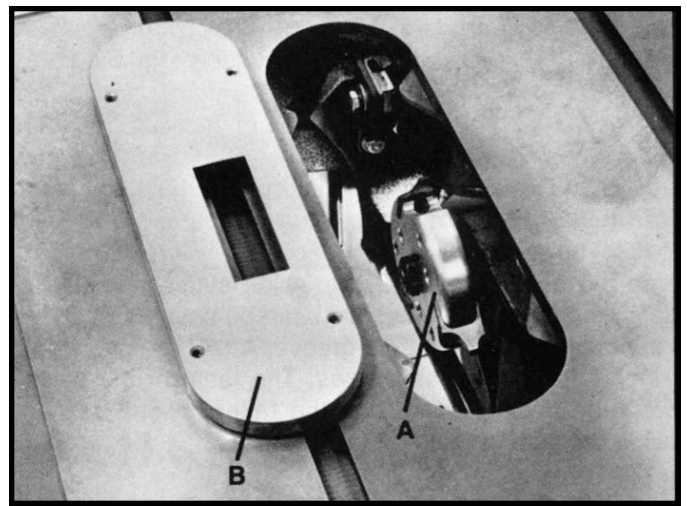

Fig. 53
The moulding cutterhead (A) Fig. 53, is assembled to the saw arbor as shown.